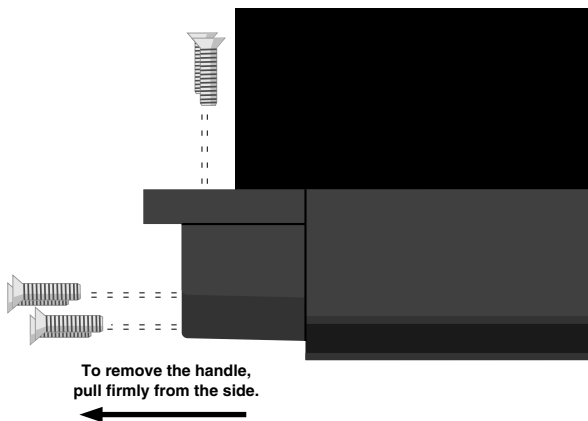

Figure 4.2 Removing a Handle
3. Remove the six screws that hold each handle in place and remove each handle (see Figure 4.2).